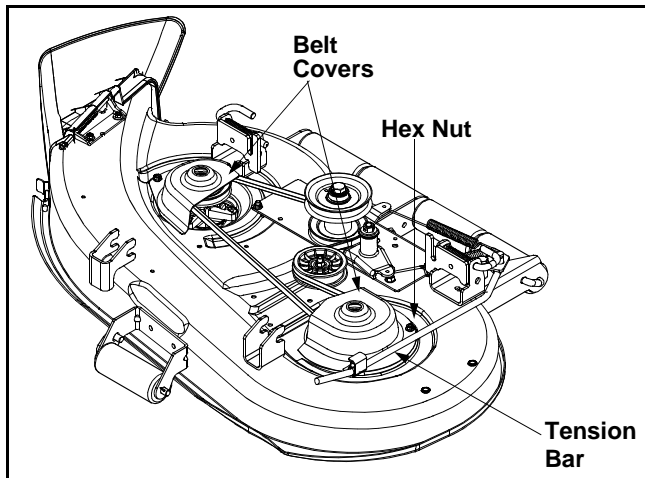

Figure 22
- Remove belt covers by removing hex nuts that hold on the covers. See Figure 22.